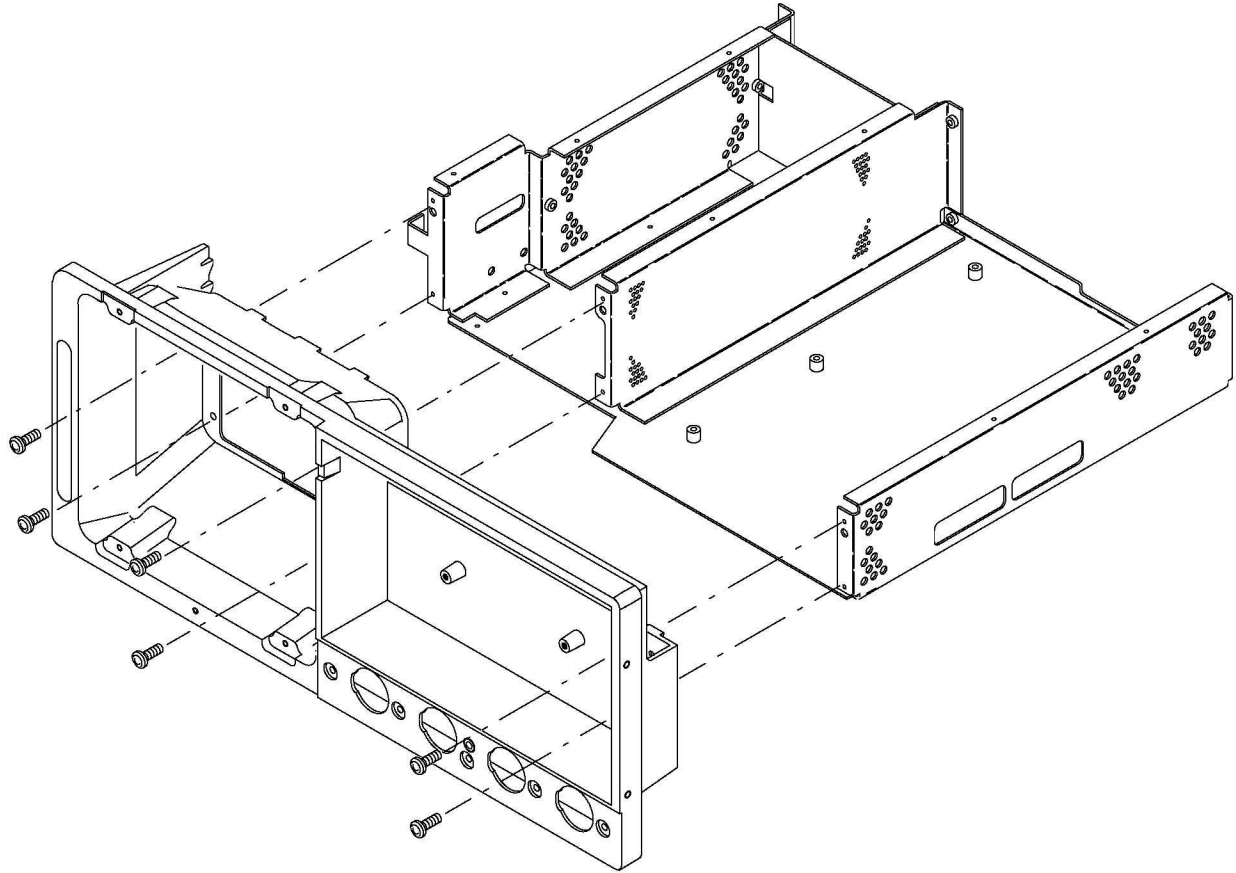

Figure 6-28: Front Subpanel Removal
3. *Remove the front subpanel:* Remove the six screws securing the front subpanel to the main chassis. (See Figure 6-28 for screw locations.) Lift the front subpanel up away from the main chassis to complete the removal.
- a. Align the front subpanel to the main chassis, taking care to ensure that the main chassis slips into its alignment slot on the front subpanel (see magnified view, Figure 6-28.) Then reinstall the six screws removed in step 3.
- b. Remove the six screws securing the front subpanel to the main chassis. (See Figure 6-28 for screw location.)